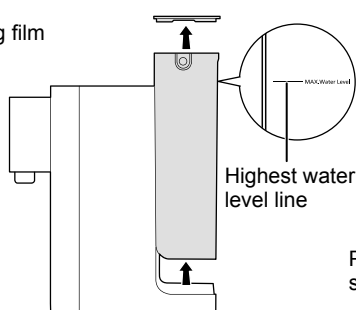

Fig. 2
- 2 Remove the external water tank lid, take out the external water tank and fill it with water up to the highest water level line (see Fig. 2).